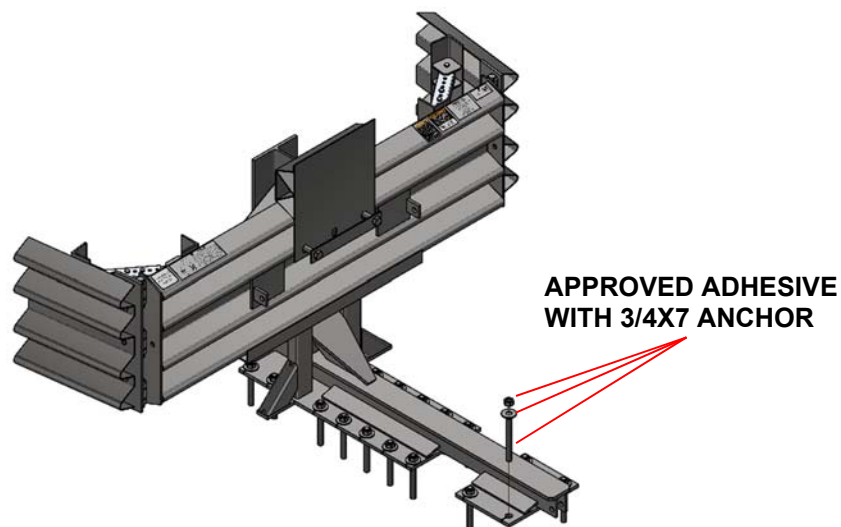
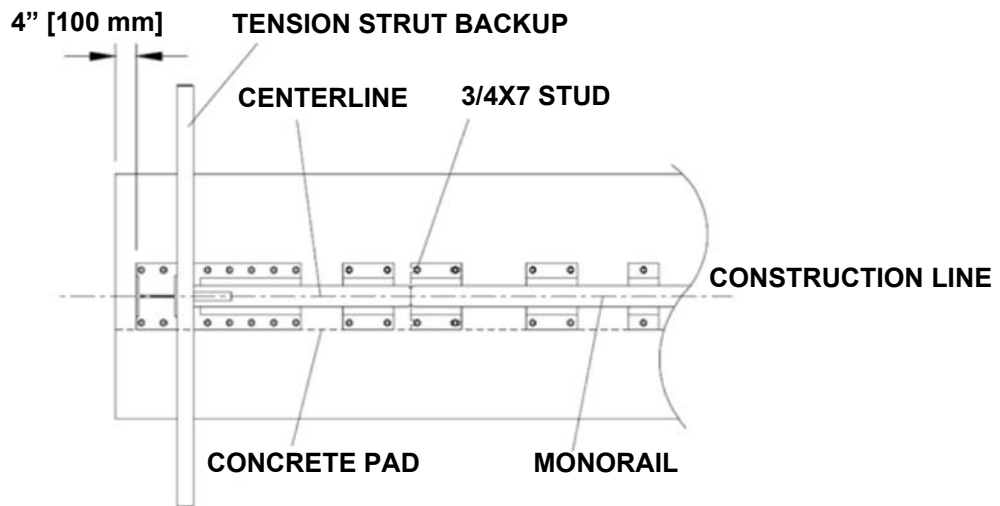

Figure 18
Figure 20
See Figure 18 (showing Backup Assembly) and Figure 20 (showing Monorail deployment). Also refer to the drawing package and the approved anchoring instructions (p. 16).
Step 1. Tension Strut Backup Assembly (Figure 18)
Locate the Backup and Monorail on the pad with the side of the Monorail on the construction line (Figure 20). Verify that applicable Transition Panels fit properly before anchoring the Backup. Drill 22mm diameter by 146 mm deep anchor holes in the pad using the Backup as a template. Do not drill through pad. Anchor the Backup to the concrete pad using approved adhesive kits (p. 16).
Locate the Monorail on the construction line as shown in the Monorail Assembly drawings. Drill 22mm diameter by 146 mm deep anchor holes using the Monorail as a template (Figure 20). Do not drill through the pad. Anchor each Monorail section using the provided approved adhesive kits (p. 16). It is important to attach each segment of Monorail in alignment from the back to the front of the system ($\pm 1/4"$ [6 mm]).